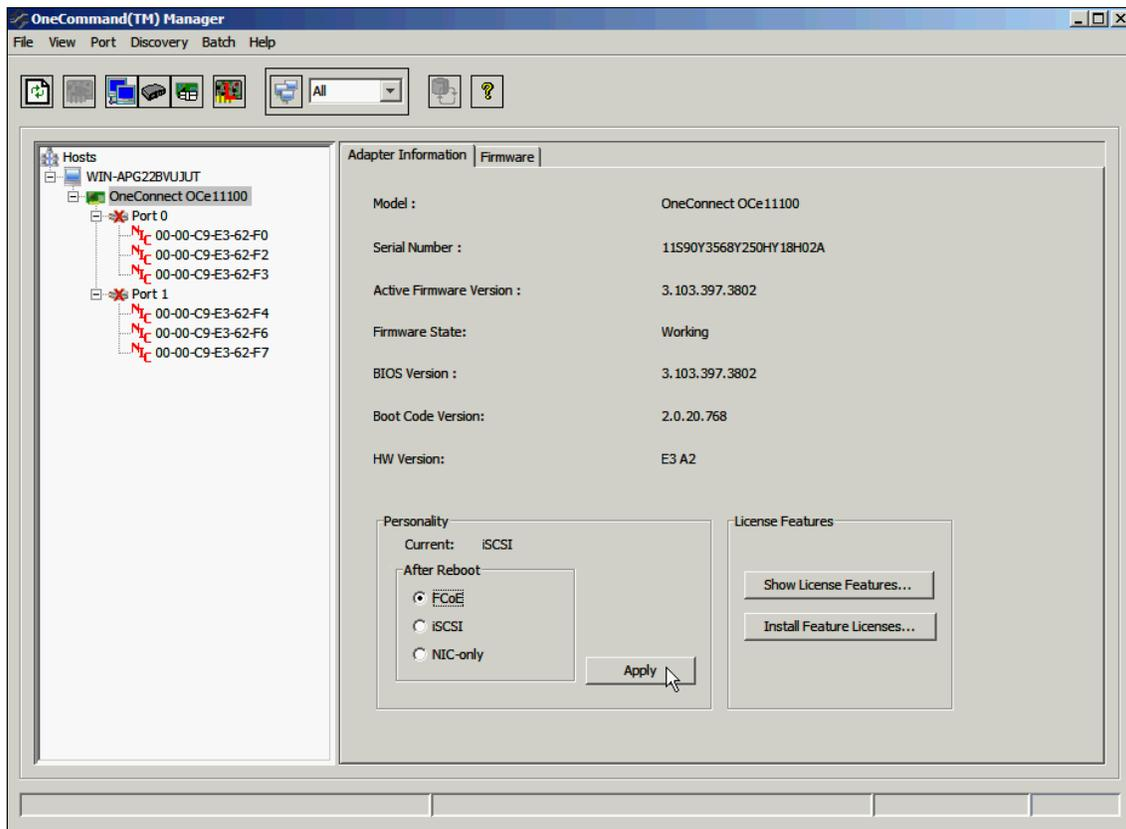

Figure 10-75 OneCommand Manager window
3. On the **Adapter Information** tab (Figure 10-75), in the Personality area, under After Reboot, choose the disk connection type **FCoE**, and then click **Apply**.